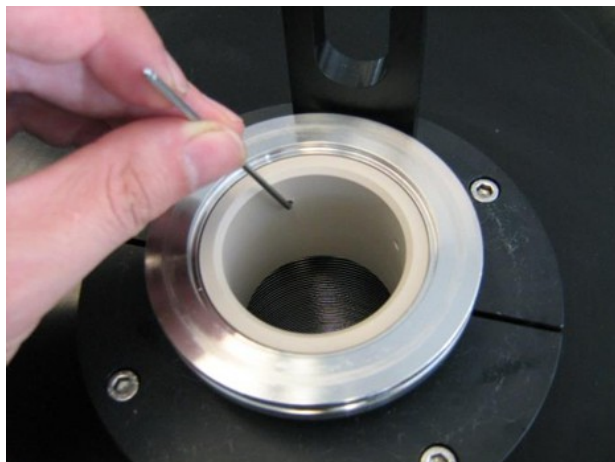

Figure 4: Insertion guide
13. Insert the 'insertion guide' as shown in (Figure 4). This part is needed to protect the internal membrane bellows of the outer vacuum space from being damage during the insertion of the vacuum tube.